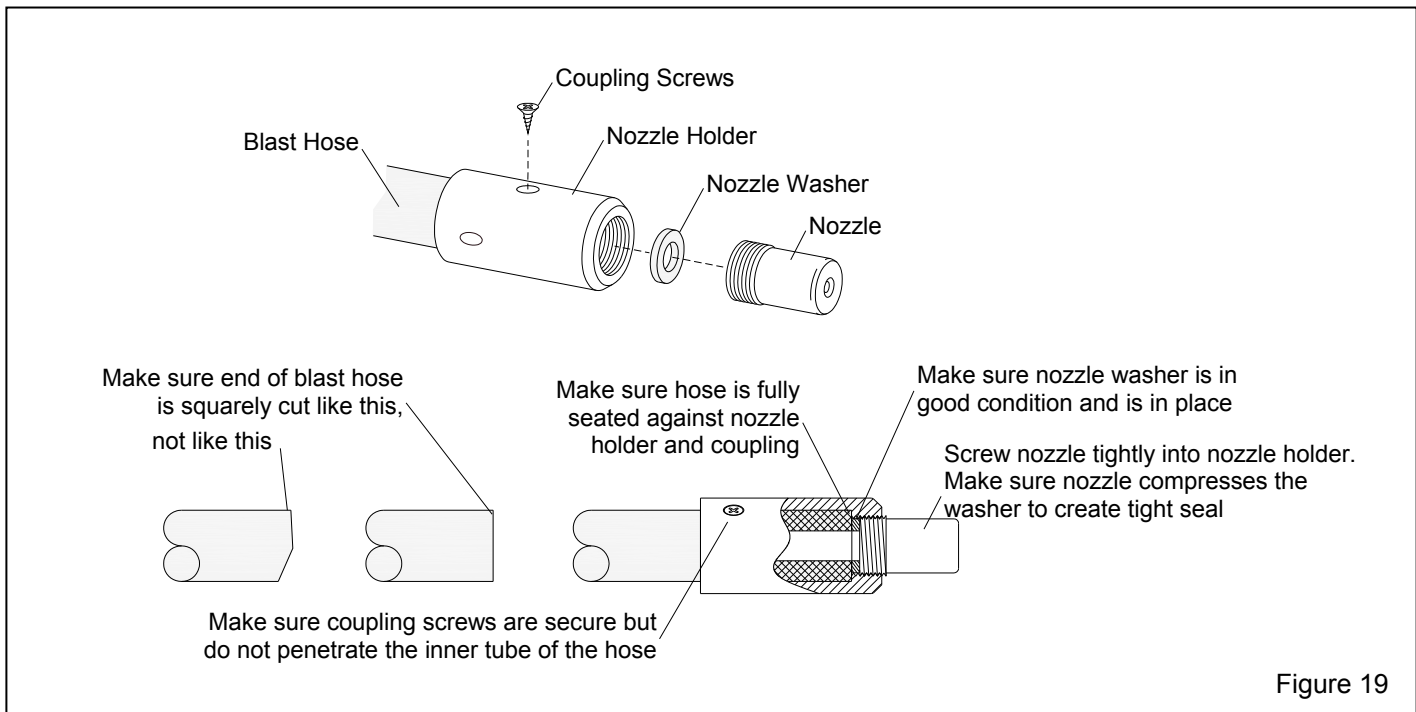

Figure 19
7.3 Blast Hose and Nozzle, Refer to Figure 19
7.3.1 When replacing blast hose make sure the hose is square cut and that it is fully inserted into the nozzle holder and coupling until it seats tightly against the shoulder in the holder and coupling, as shown in Figure 19. Make sure correctly sized screws are used to secure the nozzle holder and blast hose coupling. Screws should not penetrate the inside of the blast hose.